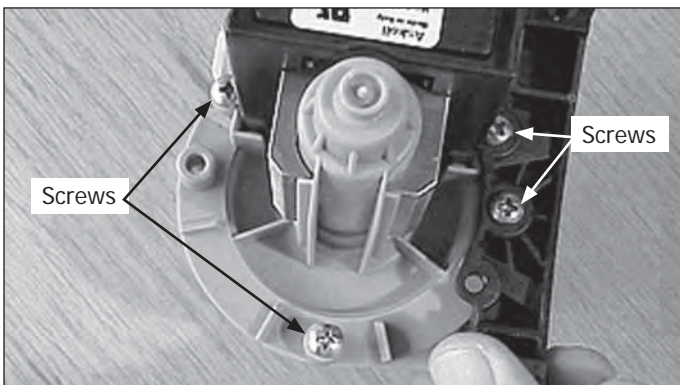

Figure 4-76.
4. Remove (4) screws to release the housing from the pump. (See Figure 4-76)